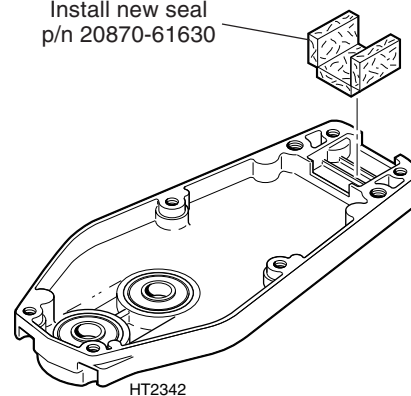

Figure 23. Install a new felt grease seal.
- Install a new felt seal p/n 20870-61630 during assembly (Figure 23).